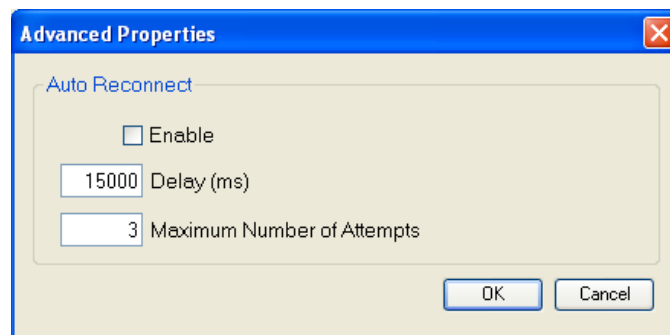

Figure 147. Advanced Properties, Auto Reconnect
7. The *Advanced* button displays the following window. It contains options for enabling Auto Reconnect, the delay between retries (in milliseconds), and the maximum number of attempts. (Figure 147)